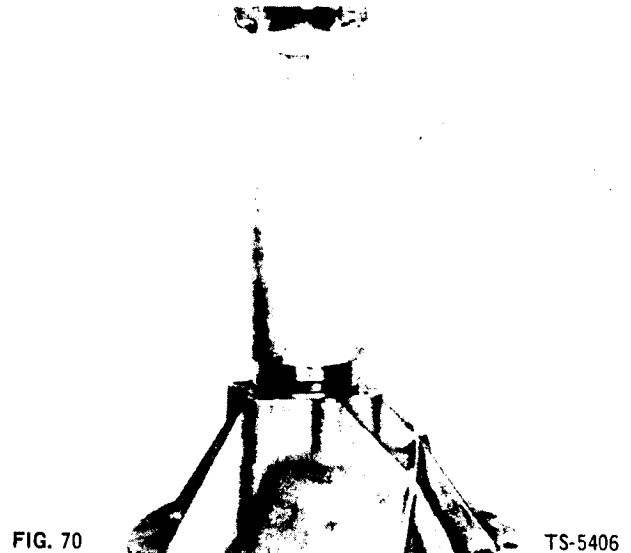

FIG. 70
5. After preload is set, press pinion shaft assembly into differential carrier (Fig. 70). Pressure should be applied only on end of double bearing cup, making sure bearing cup is seated firmly against shoulder in carrier housing.